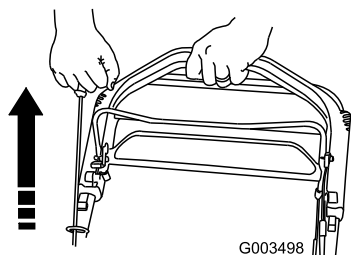

Figure 17
2. Pull the recoil starter (Figure 17).